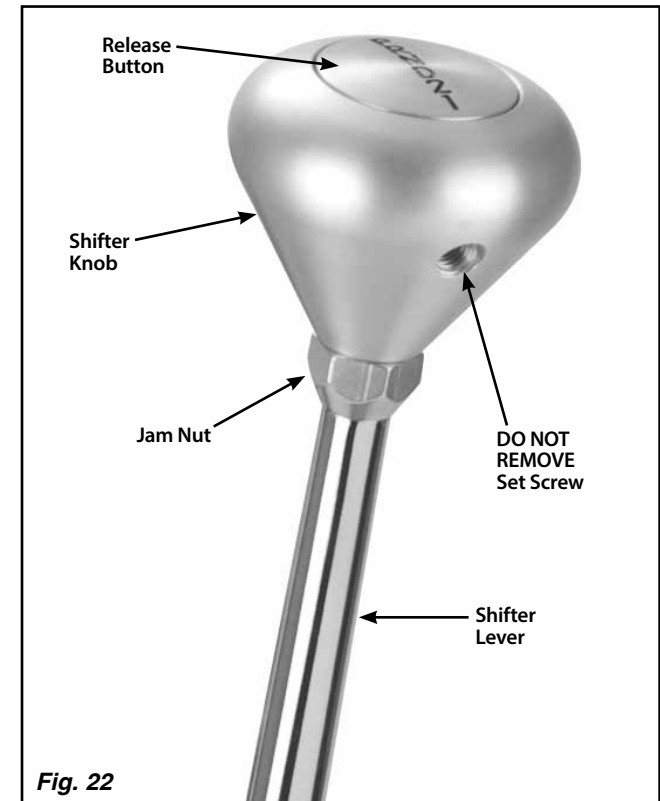

Fig. 22
- Step 2:** Loosen the jam nut below the shifter knob. **DO NOT** loosen or remove the set screw in the knob. **Fig. 22**